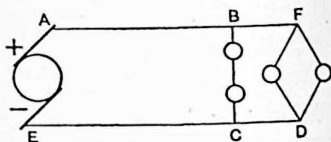

FIG. 65.
**Prob. 7.** In Fig. 65, each lamp takes 2 amperes. How much current flows through *AB*, *BF*, *EC* and *CD*?
**Prob. 13.** In Fig. 65 each lamp takes 2.5 amp.